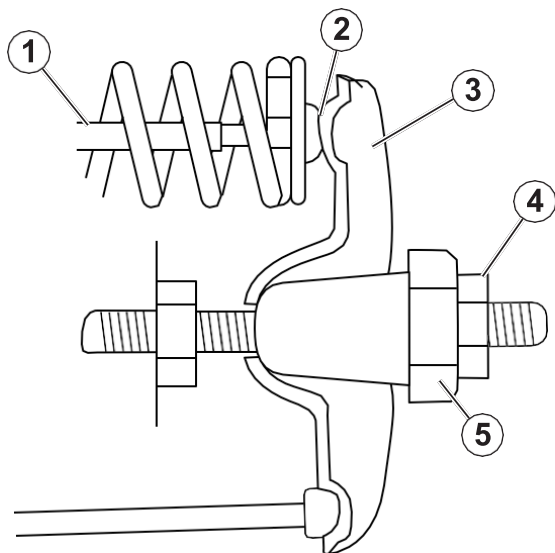

Figure 21
25. Insert a feeler gauge between the rocker arm and the push rod and check for clearance (see Figure 21). See table below for valve lash specifications